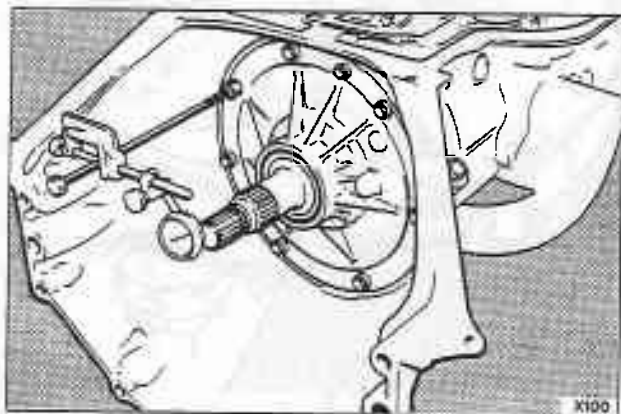

Fig. T17-8 Checking the front unit end-float
5. Check the front unit end-float as follows (see fig. T17-8).